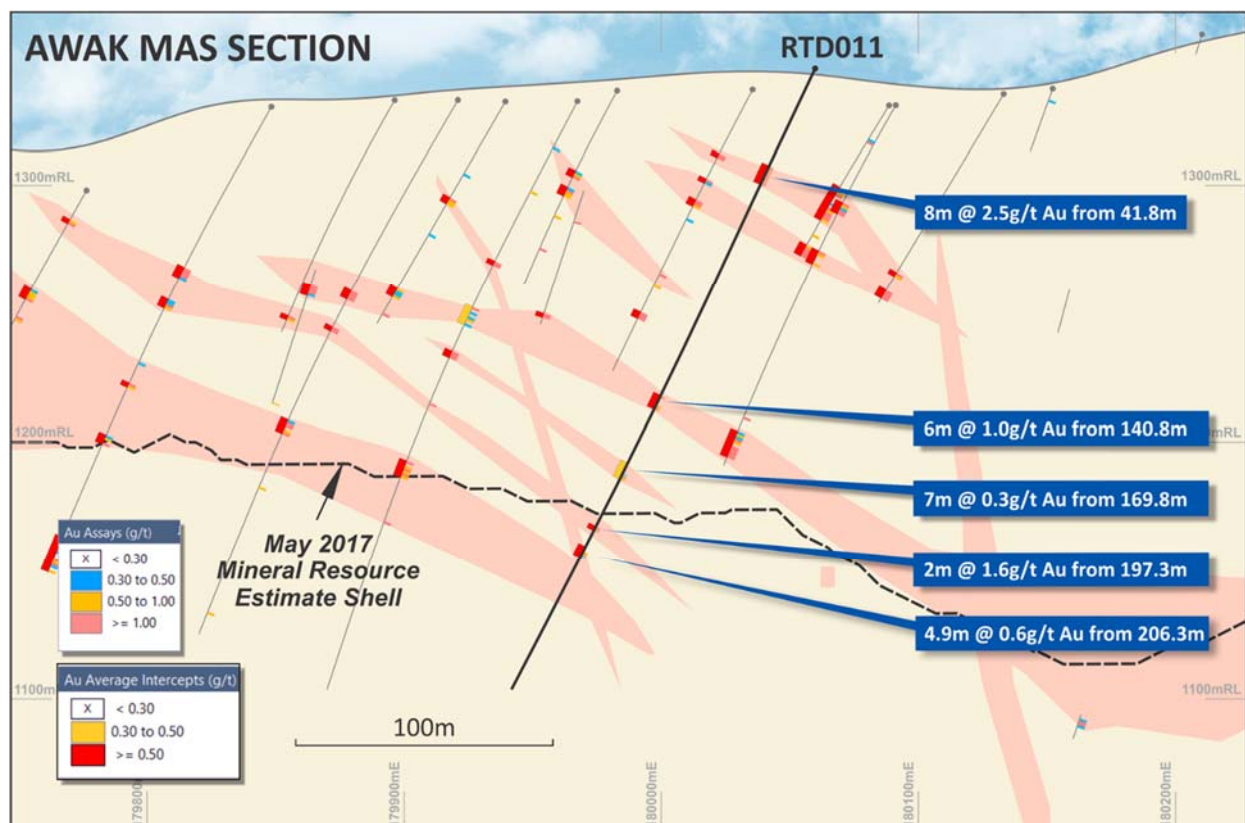

Figure 2: Cross-section of Awak Mas Deposit showing mineralised intersections >0.3 g/t Au in RTD011
- In hole RTD011, drilled within the Rante domain (Figure 2), the results were in-line with the modelled interpretations and included down hole intersections of; 8m at 2.5 g/t Au from 41.8m, 6m at 1.0 g/t Au from 140.8m, 2m at 1.6 g/t Au from 197.3m and 4.9m at 0.6 g/t Au from 206.3m.